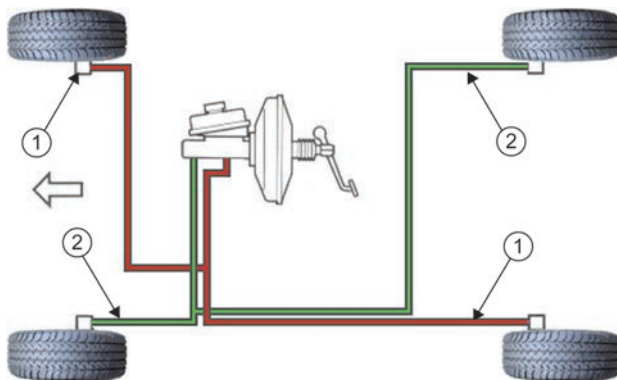

Figure 4.107 Diagonal split: 1, circuit 1; 2, circuit 2
- ▶ diagonal split type, where, if a fault occurs, the driver loses half of the front and half of the rear brakes (Fig. 4.107)